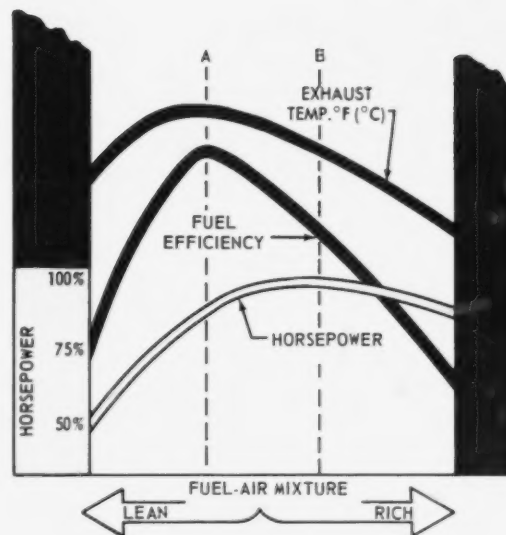

Fig. 21—Relationship Of Exhaust Temperature, Fuel Efficiency And Horsepower To Different Fuel-Air Mixtures
This indicates that you have reached the border line on the lean side of the mixture as shown by (A) in Fig. 21. At this setting, your engine will have high fuel efficiency, but it would not be developing its maximum horsepower. The temperature of the exhaust would be too high also. This could lead to burned valves.
This indicates that the fuel-air mixture is too rich as shown by (B) in Fig. 21. You will get satisfactory horsepower, but fuel efficiency will be low.